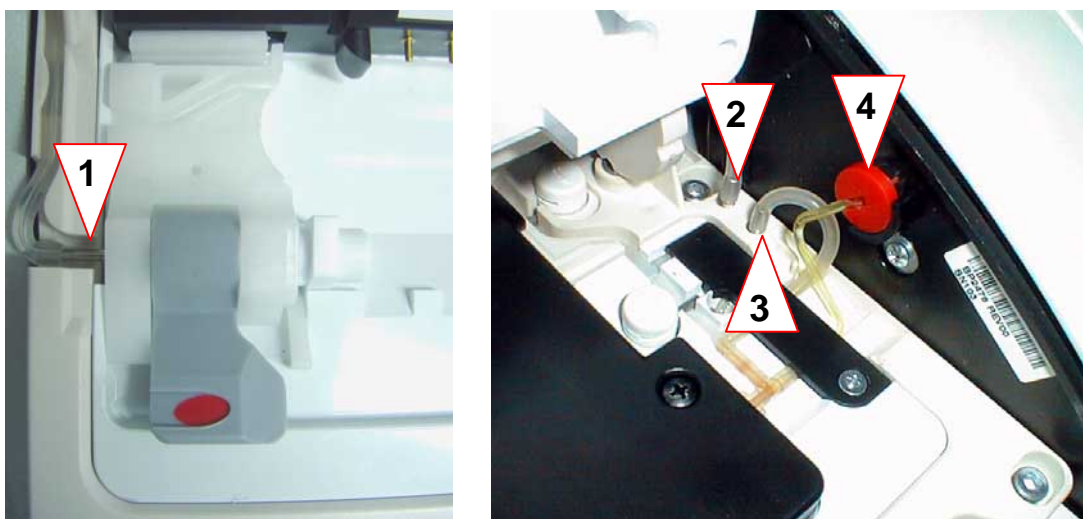

Fig. 3-12 Measuring chamber tube connections
12. Open the tube connections and the Barex tube connection (see Fig. 3-12, 1 to 4)